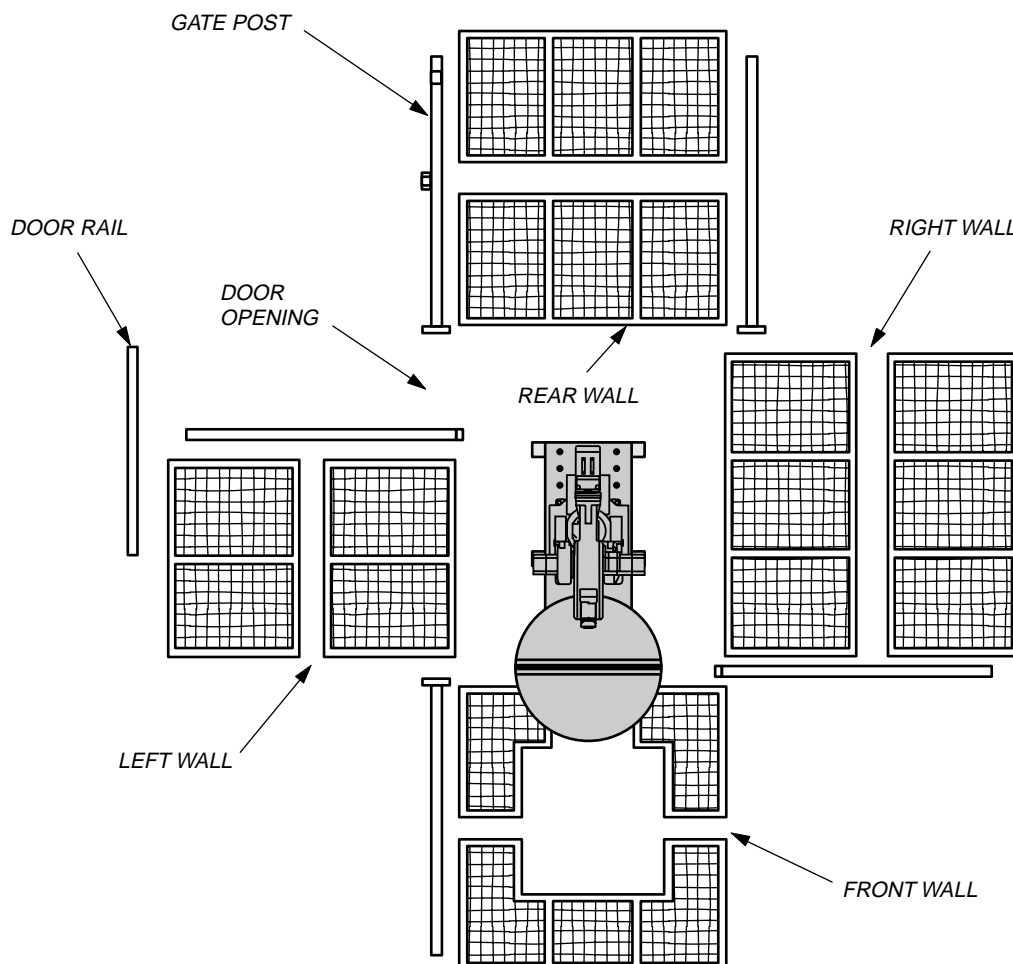

Figure 4-7 Fencing Placed on Floor Around Robot
1. Cut bands that secure metal fencing, safety mats, and safety mat trim and remove all items from skid (see Figure 4-7).